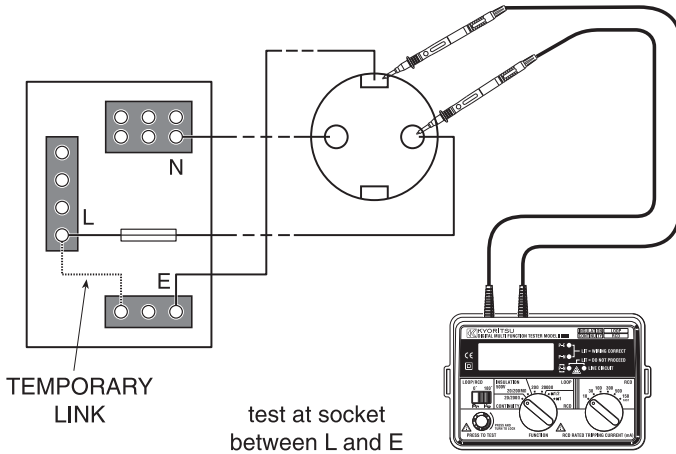

Fig 3
3. Connect the test leads to the circuit whose resistance is required (see Fig 3) **HAVING FIRST MADE SURE THAT THE CIRCUIT IS NOT LIVE.**